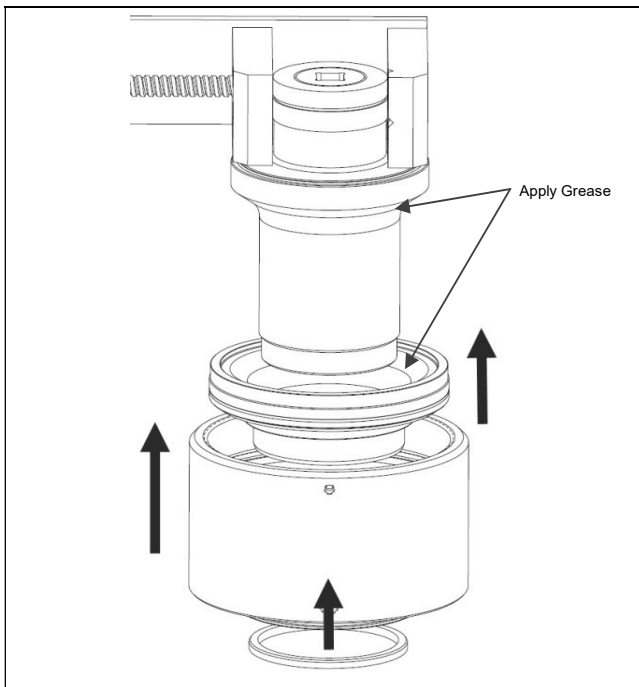

Fig. 4.5 Fit insert assembly, body, and bearing ring onto puller bar
- When sliding the body and insert assemblies back onto the puller bar, take care not to damage any of the internal surfaces. (Fig. 4.5)